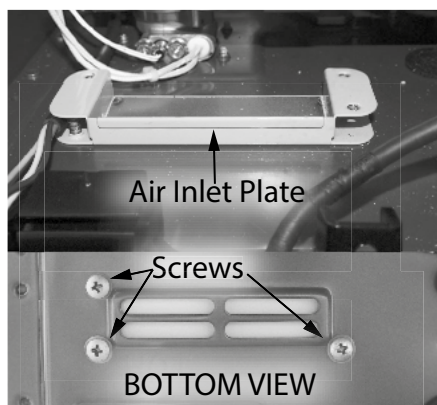

Figure 5 - Air inlet plate location
- 18** Locate the three (3) screws securing the air inlet plate to the water heater cabinet. Use a Phillips screwdriver to remove the screws. Place screws aside in a safe place for reinstallation. See Figure 5. Note the orientation of the plate when removed and returning to that orientation when reinstalling it.